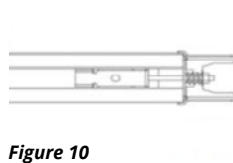

Figure 10
2. Tighten the nut in the correct position as shown in Fig.10. Cut the plastic tape and the plastic thread on sprocket. Rail assembly is now complete.